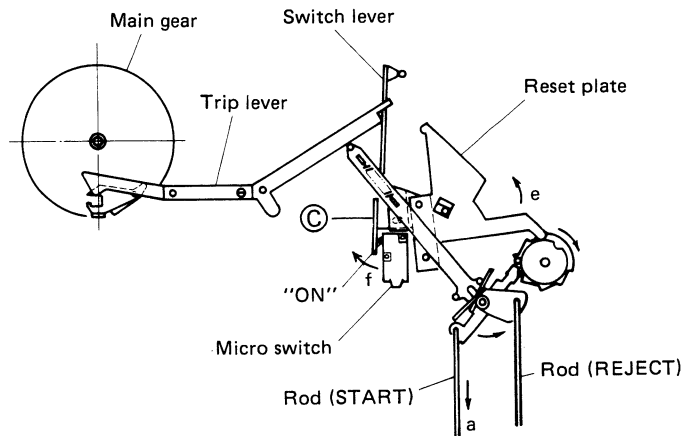

Fig. 5
The above actions cause the switch lever (C) to move in the direction of arrow f and part (C) to separate from the micro switch thus turning the micro switch on. (The micro switch in the separated state is conductive.) The operations described above are shown in Fig. 5.